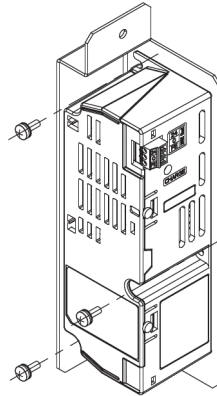

Figure 25: Securing the Option Unit to the Bracket
6. Use a Phillips screwdriver (M4) and the screws included in the option package to fasten the option to the bracket in the three locations shown in Figure 25.